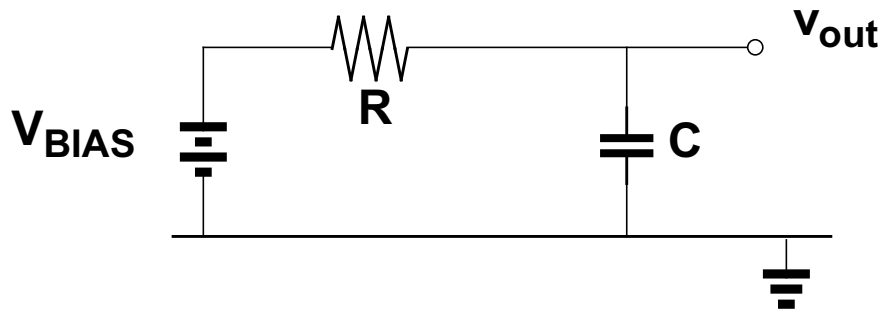

Figure 4
- (i) Show that the total integrated thermal noise voltage at node v_{out} in Figure 4 is
- (ii) If $R=1\text{k}\Omega$ and $C=1\text{pF}$ calculate the total thermal noise in V_{rms} at node v_{out} in Figure 4?
- (ii) If $R = 1\text{k}\Omega$ and $C = 1\text{pF}$ what is the total thermal noise in V_{rms} at node v_{out} in Figure 4?